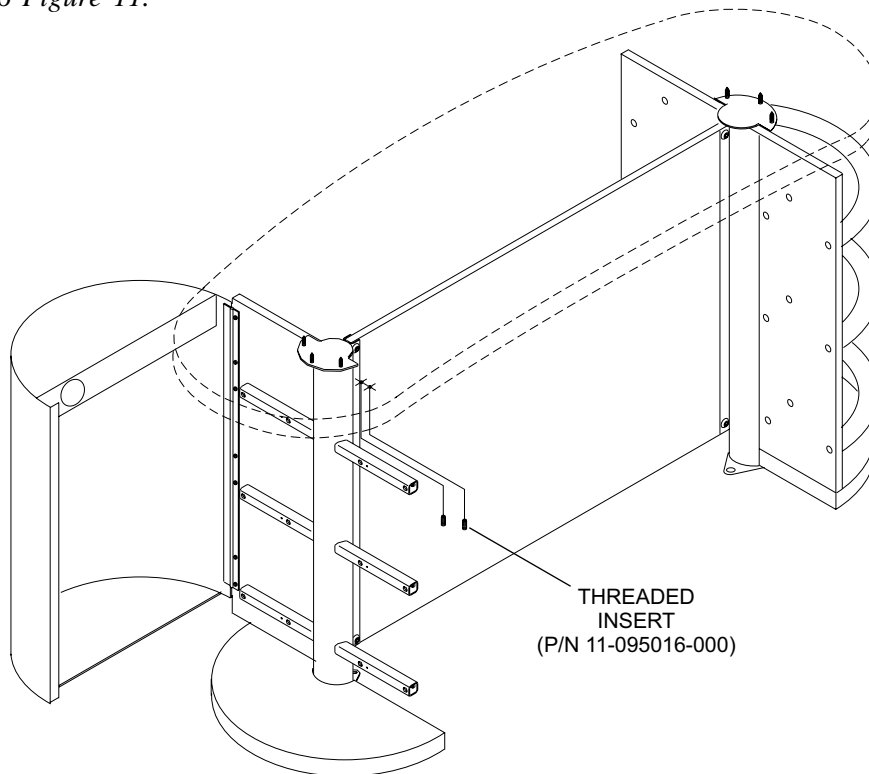

Figure 11
7. Install inserts (P/N 11-095016-000) into underneath side of top with 6mm Allen Wrench. Refer to *Figure 11*.